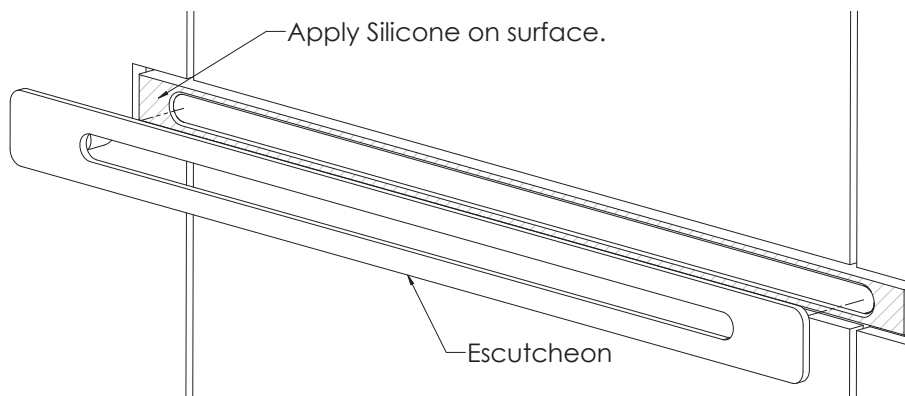

Figure 2
- Apply silicone to the front of Linear Steam Head and firmly press the faceplate against the face of the steam head, (see fig 2).